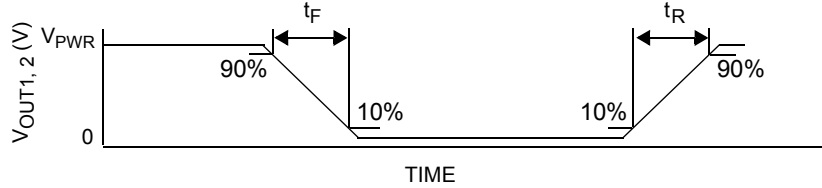

Figure 6. Output switching time
- Rise Time is from the 10% to the 90% level and Fall Time is from the 90% to the 10% level of the output signal with  $V_{\text{PWR}} = 24\text{ V}$ ,  $R_{\text{LOAD}} = 3.0\text{ ohm}$ . See Figure 6, page 10.